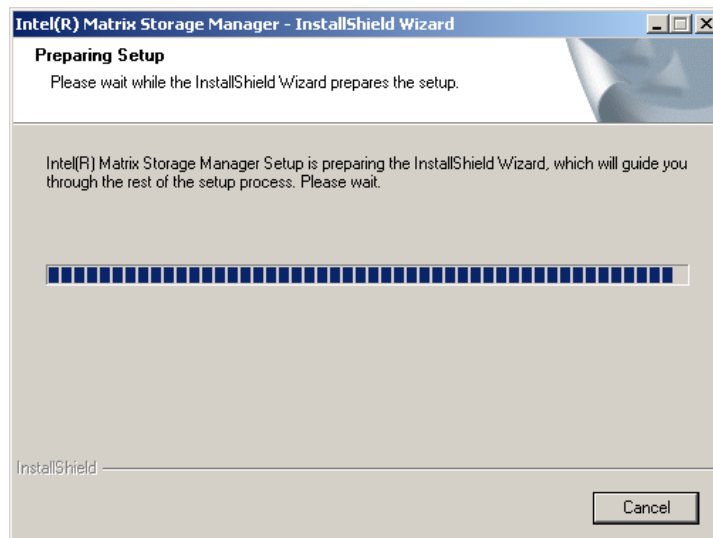

Figure 7-54: InstallShield Wizard Setup Screen
Step 5: Figure 7-54 shows the InstallShield Wizard preparing to guide the user through the rest of the process.